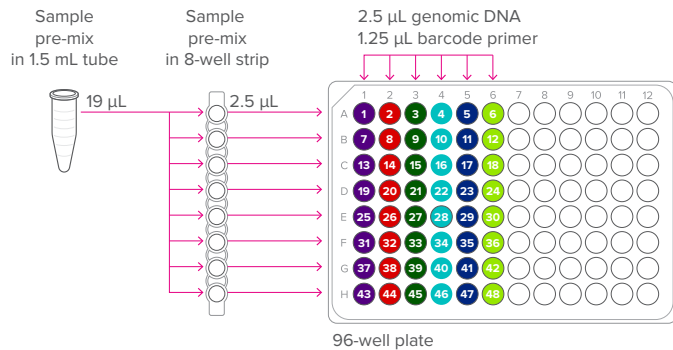

Figure 4. Preparation of sample mixes
- 4 Pipet 19 μL of the sample pre-mix into each well of a new 8-well strip (see Figure 4).
- 2 In a DNA sample hood, prepare the sample mixes by pipetting the components shown in Table 5 into each well of a new 96-well plate. Pipet reagents and samples according to the diagram shown in Figure 4. Use an 8-channel pipette to transfer the sample pre-mix from the 8-well strip.